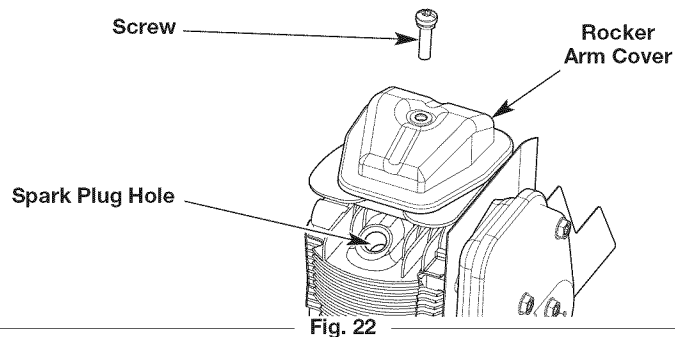
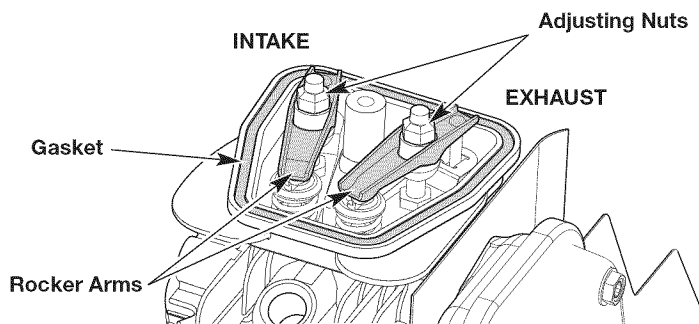

Fig. 22
Fig. 23
6. Remove the screw from the rocker arm cover with a flat-head screwdriver or T-25 Torx screwdriver (Fig. 22). Remove the rocker arm cover and gasket (Fig. 23).
7. Look into the spark plug hole (Fig. 22) and pull the starter rope slowly to move the piston. Make sure: